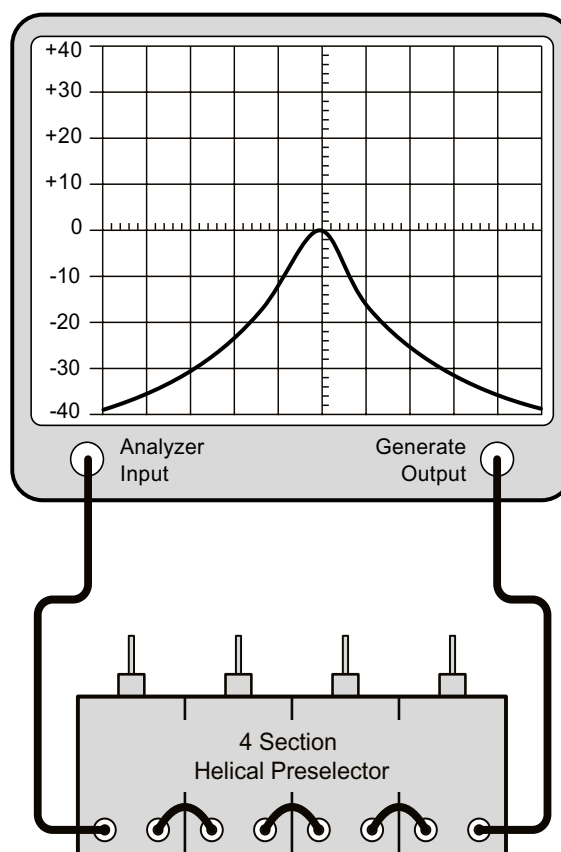

Figure 11: Preselector tuning.
- 1) Connect test equipment as shown in **Figure 11**.